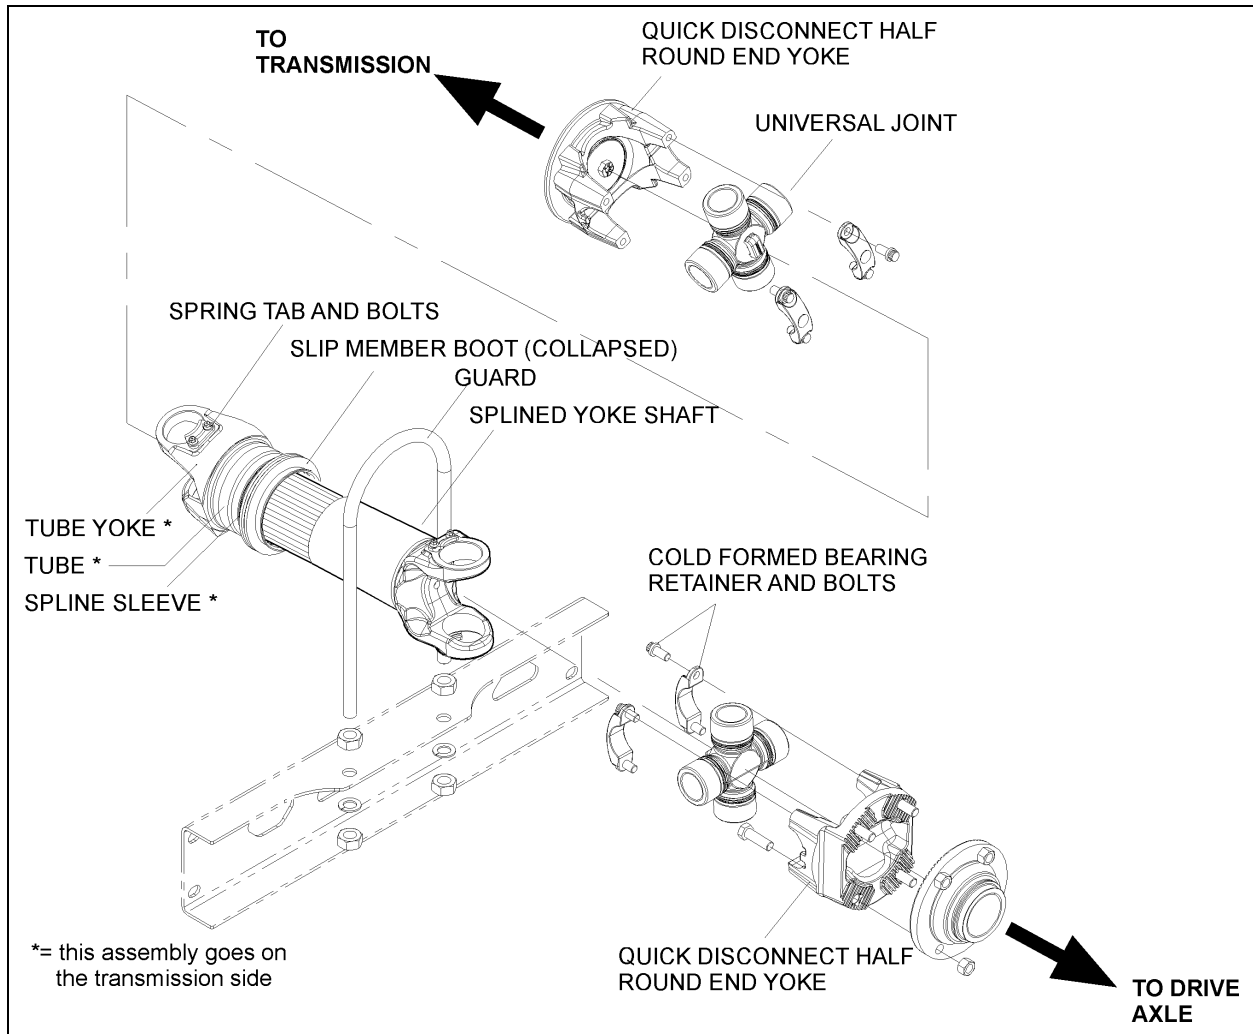

FIGURE 1: PROPELLER SHAFT ASSEMBLY (typical)
The propeller shaft transmits power from the transmission to the differential. The propeller shaft is Dana Spicer Life Series SPL250 type with tubular shafts. It is provided with two heavy-duty universal joints (**FIGURE 1**).
- e) **All universal joints securing hardware (bearing retainers and bearing retainers bolts, spring tabs and bolts) must be removed and replaced** using new OEM specified replacement parts (FIGURE 1).